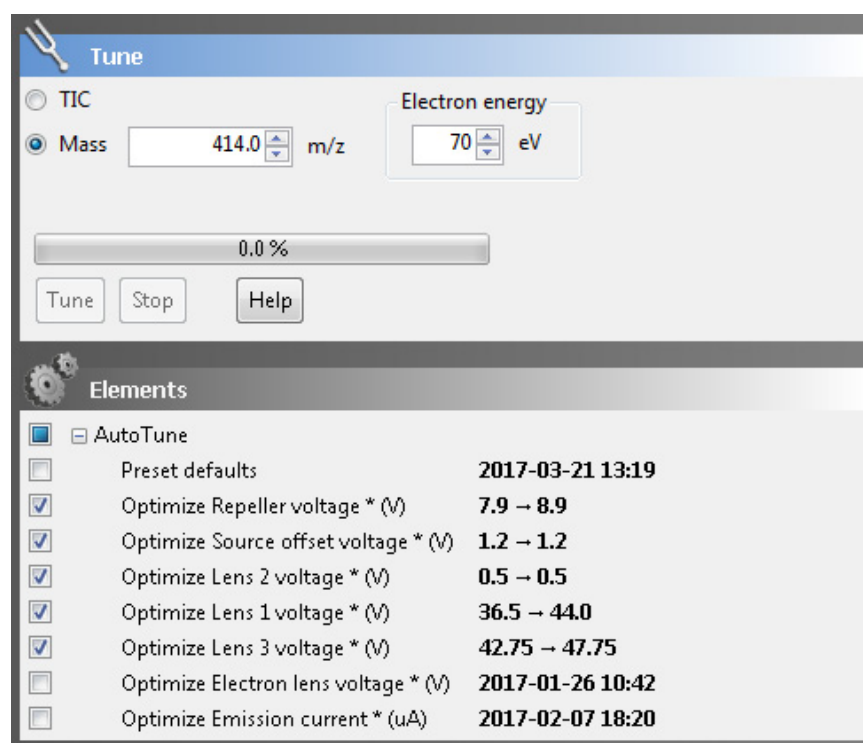

Figure 5-8. Tune window—Changing electron energy
4. In the **Elements** pane, check these selections: **Optimize Repeller Voltage**, **Optimize Source Offset Voltage**, **Optimize Lens 2 Voltage**, **Optimize Lens 1 Voltage**, and **Optimize Lens 3 Voltage**. To make the default selections, uncheck and then check **AutoTune**. See Figure 5-8.